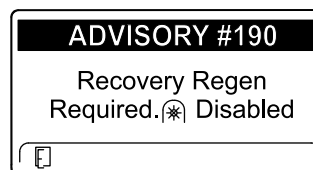

Figure 59
- Recovery regeneration required—power takeoff disabled ADVISORY #190 (Figure 59)